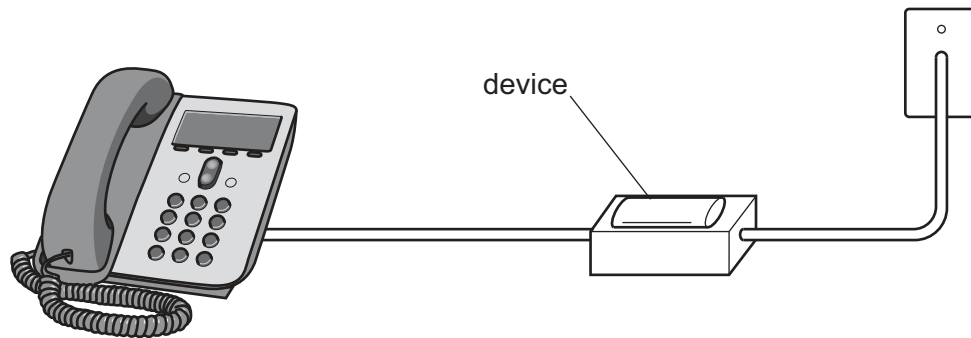

Fig. 6.1
- 6 Fig. 6.1 shows a device that plugs into a phone and flashes when the phone rings. The device allows a person with a hearing impairment to know that there is an incoming call.